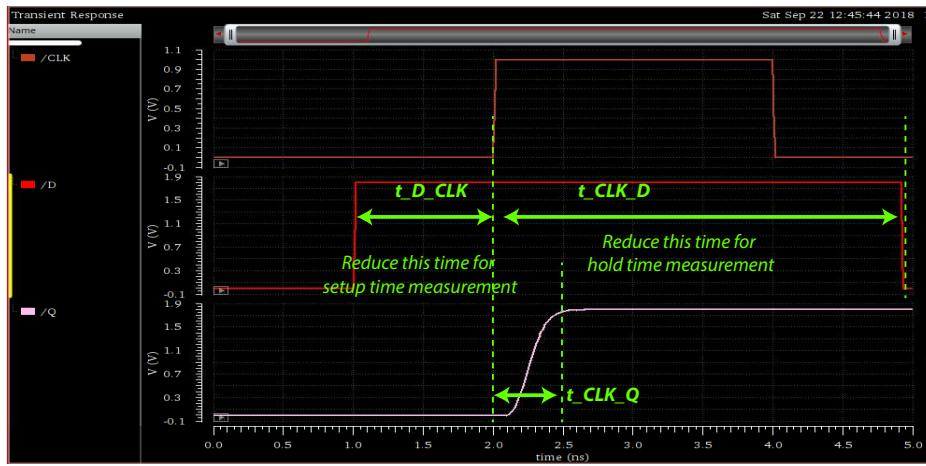

Figure 4: DFF output curves for setup and hold time measurements.
- (d) Launch the simulation and make sure that your setup is correct (it should look like Fig. 4).
- (g) Do a similar analysis for the hold time. It is suggested create a new testbench for the hold time so you don't mix things (you can simply copy the setup for the hold time and changes things accordingly). Define 2 new expressions:  $t_{CLK\_D}$  for the propagation delay between  $CLK$  and  $D$  and  $t_{CLK\_Q}$  for the propagation delay between  $CLK$  and  $Q$ . The hold time is the dual of the setup time. For this case, you assume that signal  $D$  arrives infinitely early before the rising edge of  $CLK$  (to make sure there is no setup time violation). Signal  $D$  switches again after the rising edge of  $CLK$  and you can measure  $t_{CLK\_Q}$ , as shown in Fig. 4. Then, you need to decrease the time after which  $D$  switches (meaning  $t_{CLK\_D}$  is decreasing since  $D$  is moved closer to the rising edge of  $CLK$ ). The  $t_{CLK\_D}$  for which  $t_{CLK\_Q}$  starts increasing is your hold time. Keep in mind that you need to modify the source voltage for  $D$  accordingly.
Create a new schematic and symbol for an 4-bit register. You will need to simulate the shift register with a clock speed of 500 MHz, a pulse data input similar to figure 4, voltage supply of 1.8V and the voltage found in previous exercise.